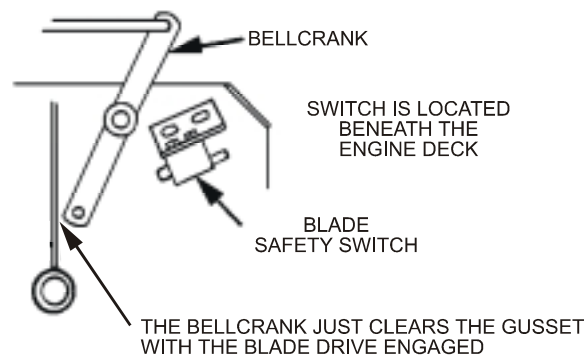
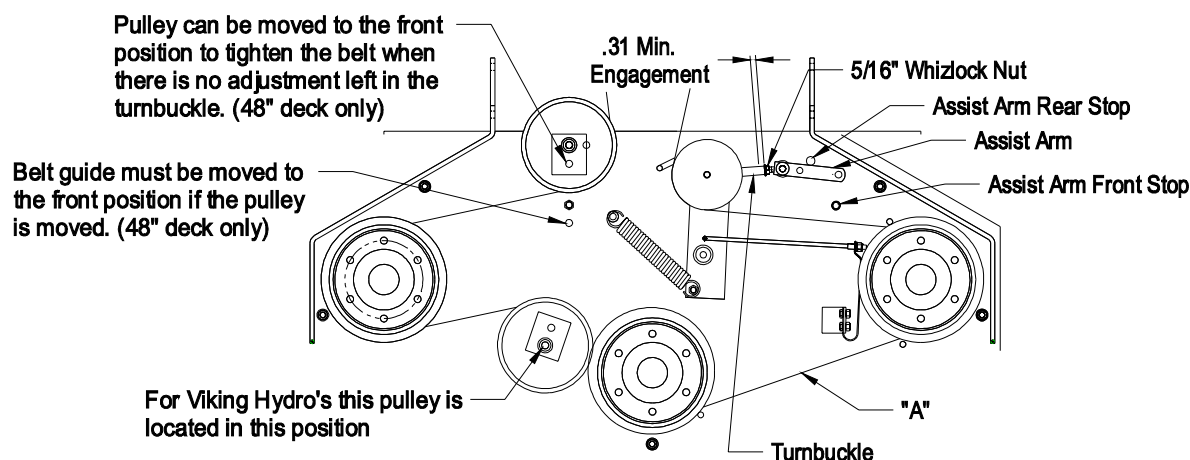

FIG. 9
FIG. 10
- b) With blade drive engaged (lever pulled up, adjust the linkage length to where the lower end of the bellcrank just clears the axle support gusset (See Figure 9). Make sure the assist arm is against the rear assist arm stop on the deck (See Figure 10). Push the lever down to the disengaged position. The assist arm should contact the front assist arm stop on the deck. If it does not contact, readjust so that the bellcrank is closer to the gusset.
- c) Belt must be tight enough so it does not slip during heavy loads while cutting grass. Over-tensioning will reduce belt and spindle bearing life. To adjust belt tension, loosen the 5/16" whizlock nut on turnbuckle and rotate the turn buckle; rotate turnbuckle toward rear of mower to tighten, and toward front of mower to loosen belt tension (See Figure 10).
For 48" Decks: If there is no adjustment left in the turnbuckle and the belt is still loose, the rear idler pulley can be repositioned in the front hole (See Figure 10). The belt guide located next to the pulley must also be repositioned in the front hole when the pulley is moved. The turnbuckle will need to be readjusted.
- e) Proper belt tension will require about 10 lbs. side pull on belt, halfway between pulleys, to deflect belt 1/2". (See Figure 10, Point A).